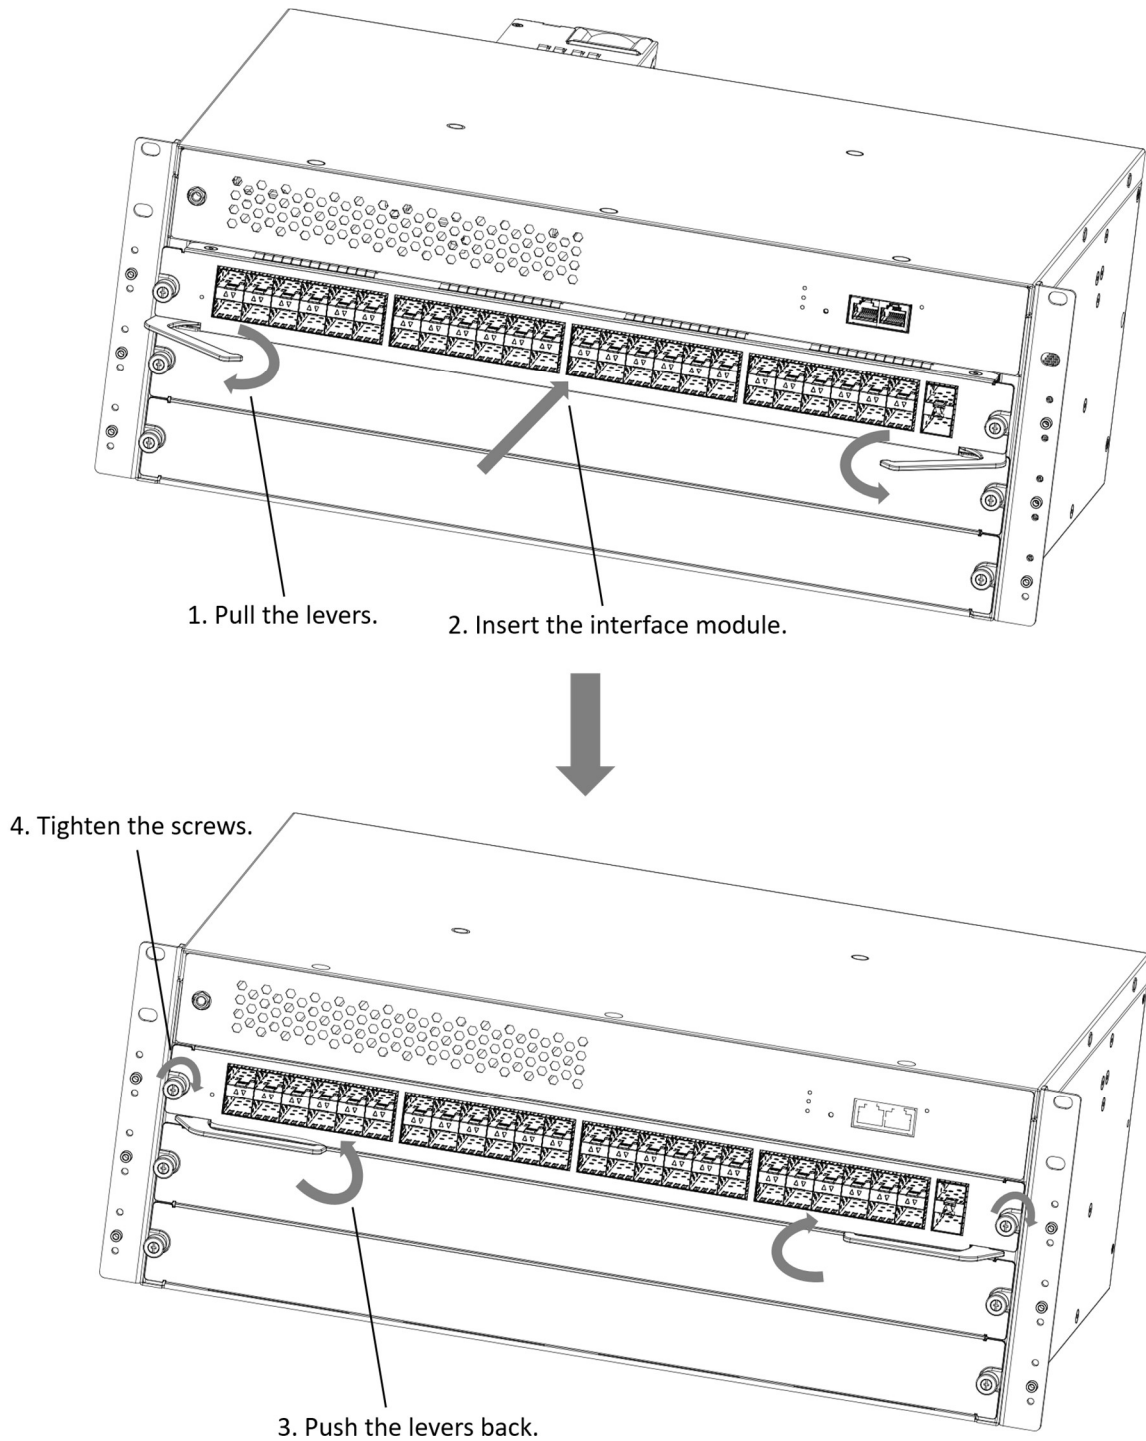

Figure 2-3 Install Interface Module
Step 2 Align the interface module with the chassis slot guide rails (as shown in Figure 2-3), then insert it horizontally until the module fully engages with the slot.